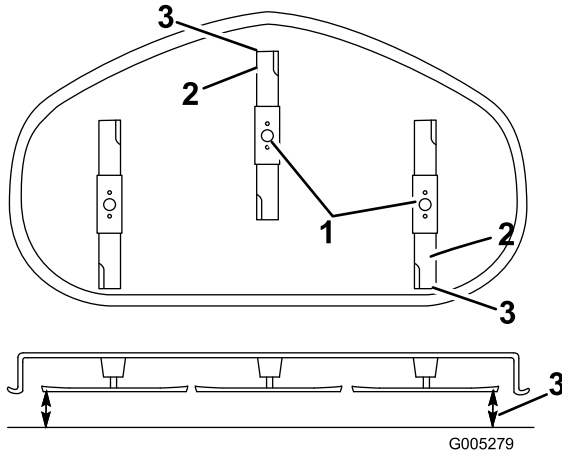

Figure 43
- Set the height-of-cut at position 3 [3 inch (76 mm)] and carefully rotate the blades so they are facing front to rear (Figure 43).
6. Measure from the tip of the front blade to the flat surface and the tip of the rear blade to the flat surface (Figure 43). If the front blade tip is not 1/16-5/16 inch (1.6-7.9 mm) lower than the rear blade tip, adjust the front locknut.
is 1/16-5/16 inch (1.6-7.9 mm) lower than the rear blade tip (Figure 43).